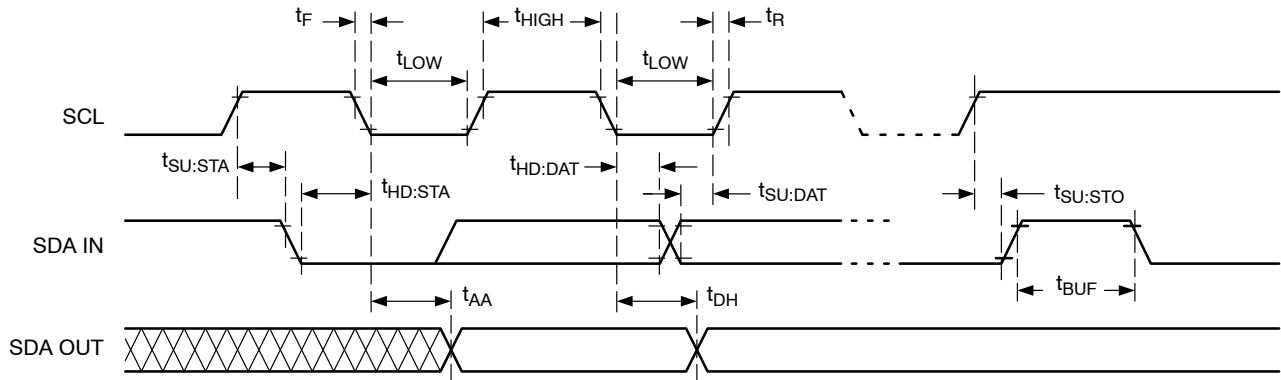

**Figure 3. Slave Address Bits**
The Master addresses a Slave by creating a START condition and then broadcasting an 8-bit Slave address (Figure 3). The four most significant bits of the Slave address are 1010 (Ah). The next three bits are internal address bits,  $a_{10}$ ,  $a_9$ ,  $a_8$ . The last bit,  $R/\overline{W}$ , instructs the Slave to either provide (1) or accept (0) data, i.e. it specifies a Read (1) or a Write (0) operation.